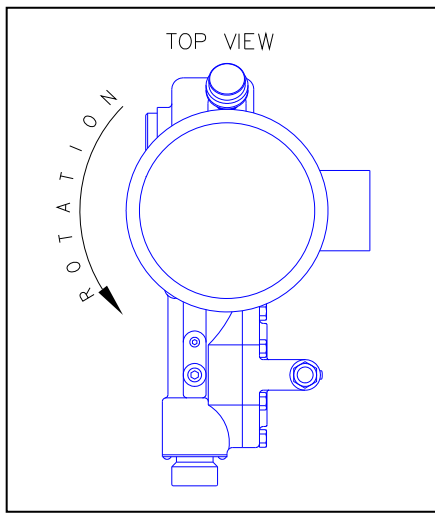

FIGURE 1
- 1.0.11 The electrical supply to the pump must match the motor name plate characteristics. The motor rotation is counterclockwise when viewed from the top of the motor, looking down on the pump. (See Figure 1).
Please note Figure 1, indicating the correct rotation. (An arrow on the gear box also indicates proper rotation.) Operation with the incorrect rotation will damage the pump and motor.